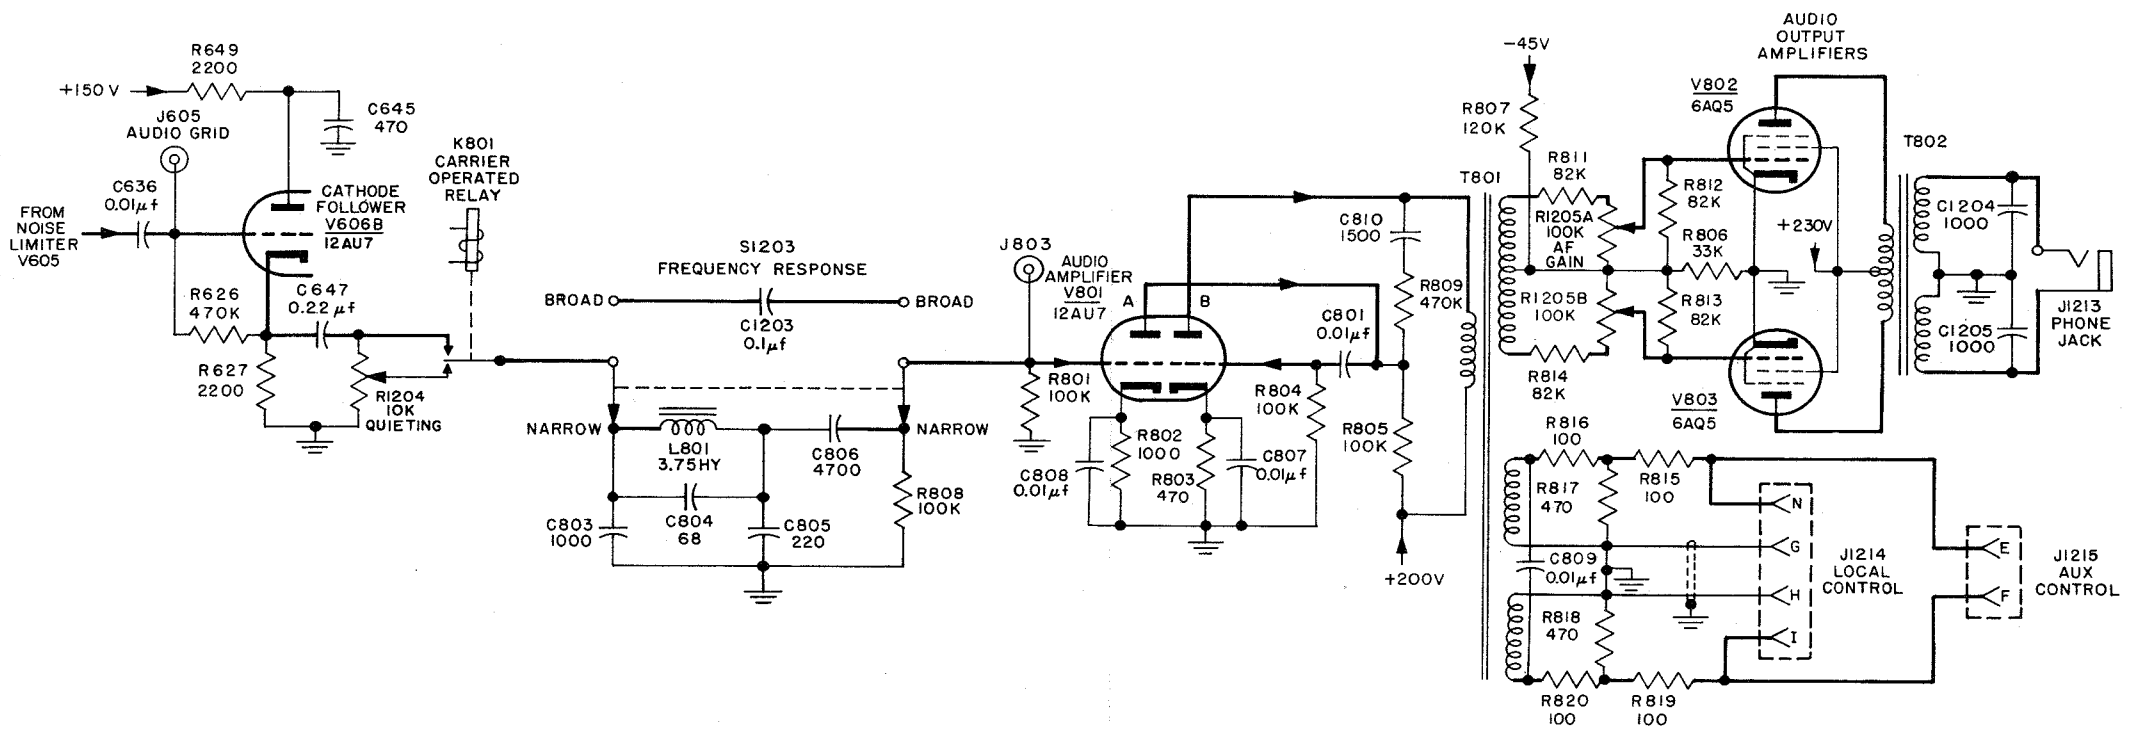

Figure 4-17. Radio Receiver R-278B/GR, Multi-channel Receiver Section, Audio Amplifier and Audio Control Circuits, Simplified Schematic Diagram
1. GENERAL.—A simplified schematic diagram of the audio amplifier and audio signal controls is shown in figure 4-17. Refer to figure 4-3 for the function of these circuits in the multi-channel receiver section. As shown in figure 4-17, the audio amplifier circuit includes two stagelamplifier V801 and push-pull amplifier V802 and V803. The audio signal controls consist of QUIETING control R1204, carrier-operated relay K801, the audio bandwidth filter, and AUDIO GAIN control R1205.